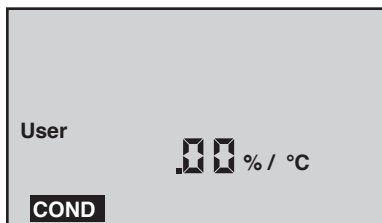

Figure 3
- b. With "USER" selected, press $\frac{\text{CAL}}{\text{MCLR}}$. If the display does not show .00%/°C, hold $\frac{\text{MR}}{\nabla}$ long enough to bring the tempco to .00%/°C (see Figure 3).